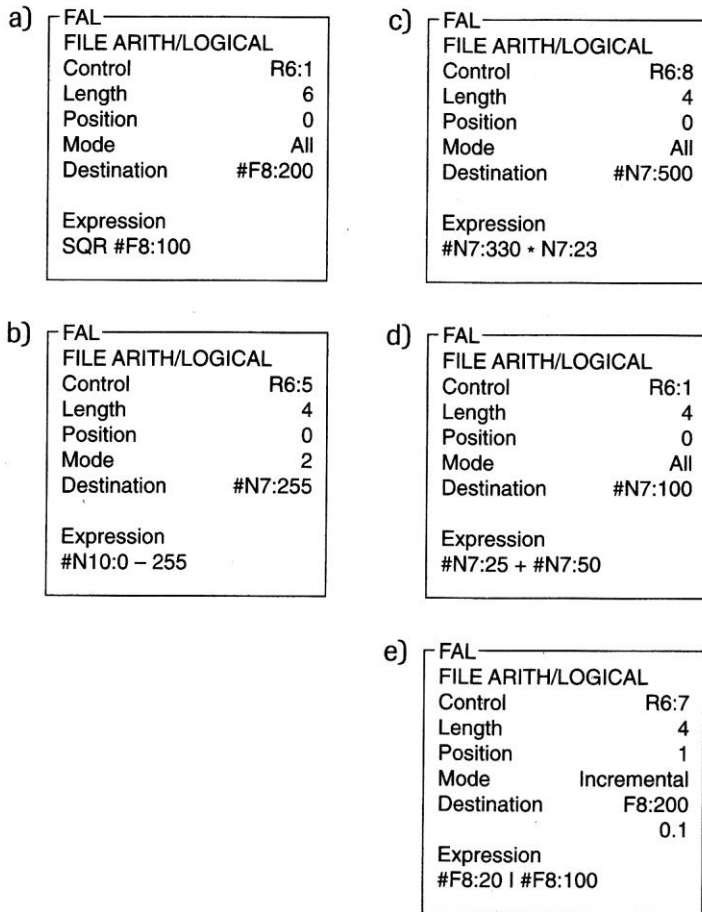

Figure 11-24 FAL instructions for question 19.
19. Identify the math function for each of the FAL instructions shown in Figure 11-24.